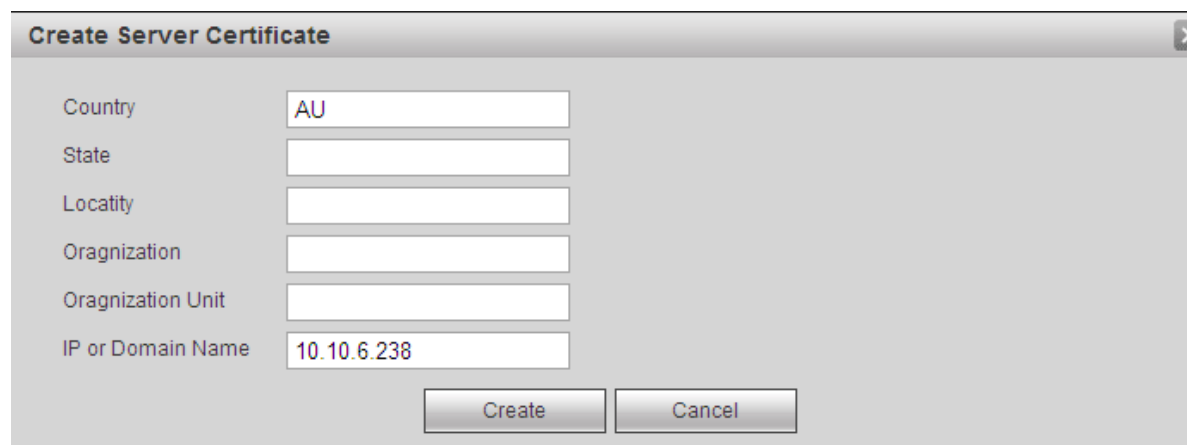

Figure 5-48
Step 2 In Figure 5-47, click  button, input country name, state name and etc. See Figure 5-48.